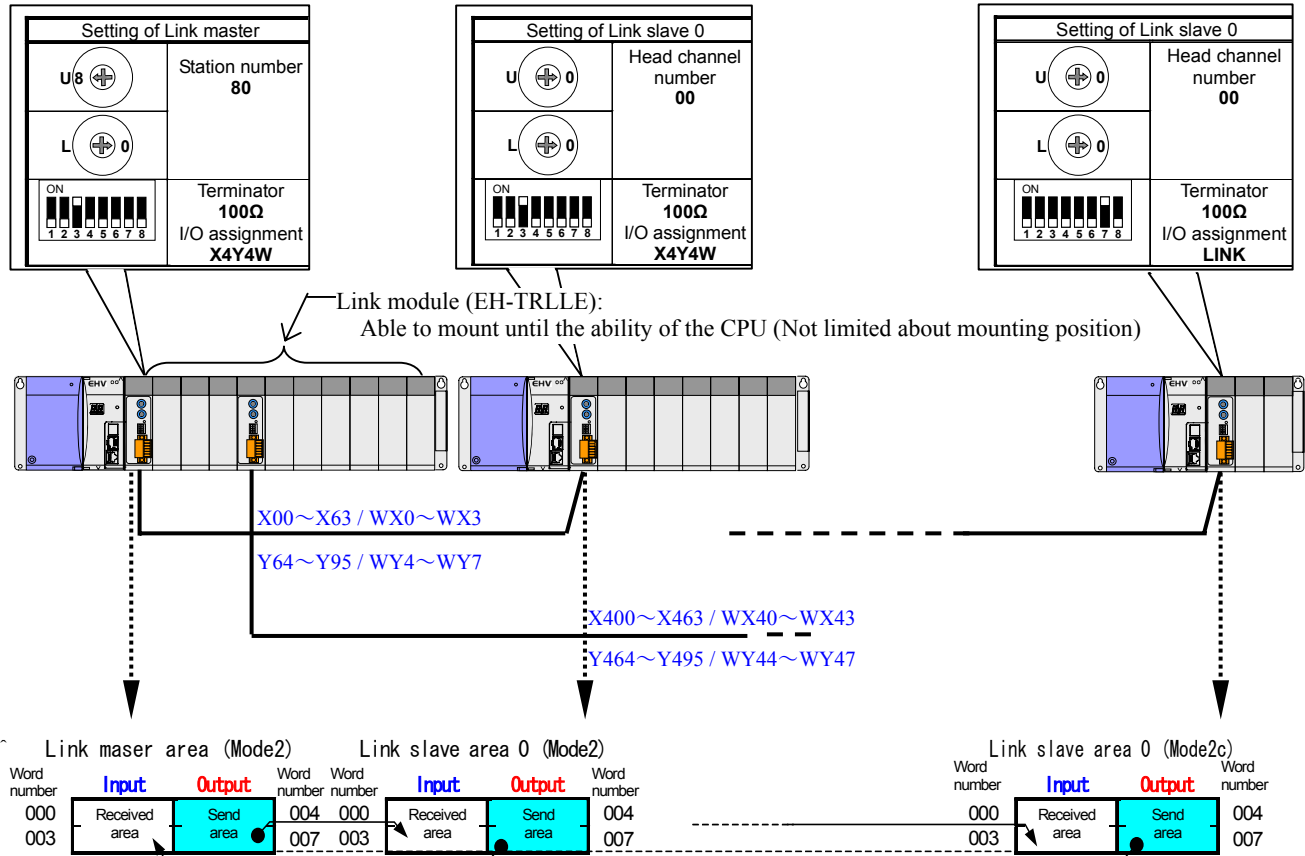

Figure 4.3.10 System configuration example (Master: Mode2)
Figure 4.3.10 is the system configuration example that master station is set to Mode2. Refer to section 3.1 for the setting method of the compatible mode.
- 2) When the slave station is set the rotary switches to the operation mode "Mode2", the head channel number is the head I/O number (in the case of figure 4.3.10: WX0 and WY4). And the output area is compacted in the module, and the link area is assigned the channel number from 0 to 3. Therefore the module occupies 4 channels from head channel. So there are the inputs of 64 points and the outputs of 64 points.
- 3) When the slave station is set the rotary switches to the operation mode "Mode2c", the head channel number is the head number of link area (in the case of figure 4.3.10: WL0 and WL4). And the output area is compacted in the module, and the link area is assigned the channel number from 0 to 3. Therefore the module occupies 4 channels from head channel. So there are the inputs of 64 points and the outputs of 64 points.